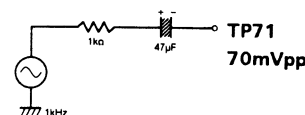

Fig. 7.2
- Apply a 1 kHz signal 70mVpp (sinusoidal) to TP71 (RF AGC testpoint of the tuner) via the matching network outlined (see fig. 7.2).